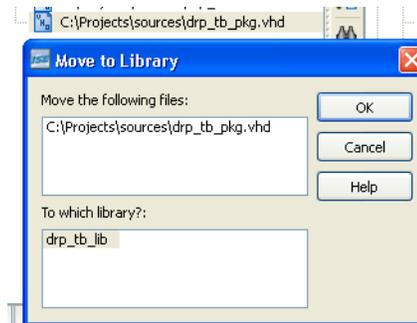

Figure 2-14: Move to Library Window
5. Click **OK**. (Refer to Figure 2-14.)